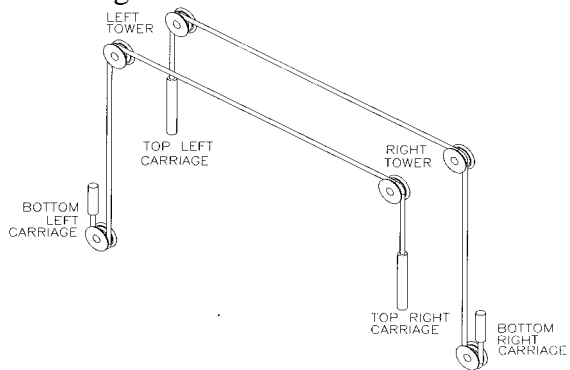
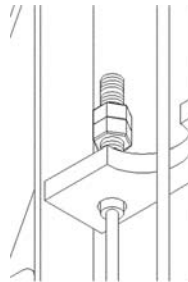

Figure 6a
Figure 6b
2. Remove equalizing cables from the accessory kit box, and then locate the (8) ½”-13UNC nuts from a polybag in the hardware kit box.
3. Equalizing cables are to be routed as shown in **Fig. 6a**. Using the first cable, insert the short threaded stud through the 9/16”dia. hole at the bottom of the carriage, and feed upwards until the stud comes through the top of the carriage. Place a ½”-13UNC nut at the center of the stud, and then **firmly tighten** a second nut up against it using two wrenches. Pull the cable back down through the bottom of the carriage. (**Fig. 6b - cross-sectional view of bottom of carriage**).
4. At the bottom of the column, remove the hitch pin, pulley pin and pulley from the baseplate (**Fig. 6c**). Route equalizing cable around pulley and reassemble the pulley to the baseplate. **IMPORTANT – Hitch pin must be installed securely**. Then route the cable up through the carriage, around the pulley at the top of the column, across the crossmember, around the pulley at the top of the other column and then down (**Fig 6a**). Insert the threaded stud into the 9/16” Dia. hole in the top of the other carriage.